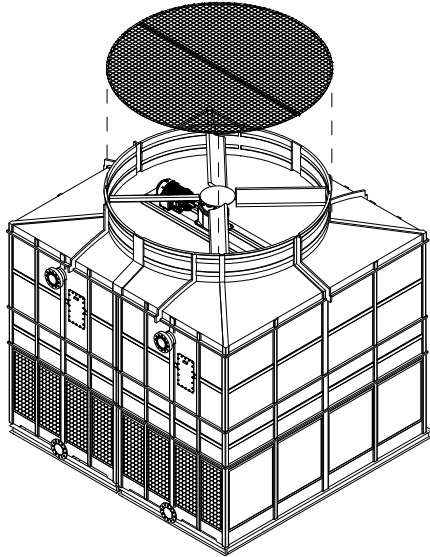

Figure A-122: Fan guard installation on the Fan Deck in a RTGMTC model
- X. Assemble the 2-piece Fan Guard bolting each section as indicated. (See figure A-122).
- Y. Once the fan Guard section has been assembled, secure the Fan Guard #M1 and lift this section (It's recommended that the bands be adjustable). Lift the fan Guard #M1 using a crane and a spreaded bar and install it on top of the fan deck Section #M1, making sure that the bolt holes on the Fan Guard Section are aligned with the ones on the Fan Deck Section #M1. Secure it with stainless steel nut and bolt sets supplied by REYMSA.(See figure A-122).